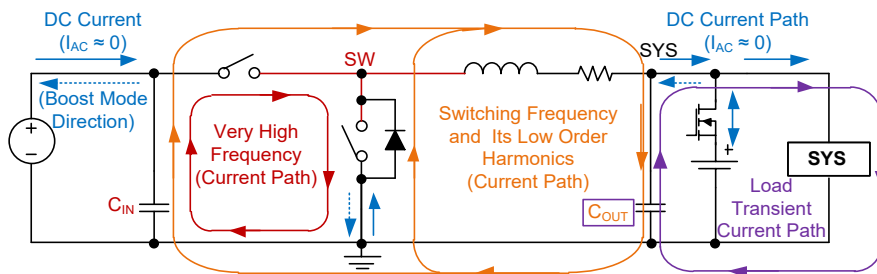

Figure 20. The Paths and Loops Carrying High Frequency, DC Currents and Very High Frequency (for Layout Design Consideration)
The switching node (SW) creates very high frequency noises, which are several times higher than f_{SW} (1.5MHz) due to sharp rise and fall of the voltage and current in the switches. To reduce the ringing issues and noise generation, it is important to design a proper layout for minimizing the current path impedance and loop area. A graphical guideline for the current loops and their frequency content is provided in Figure 20. The following considerations can help to make a better layout.